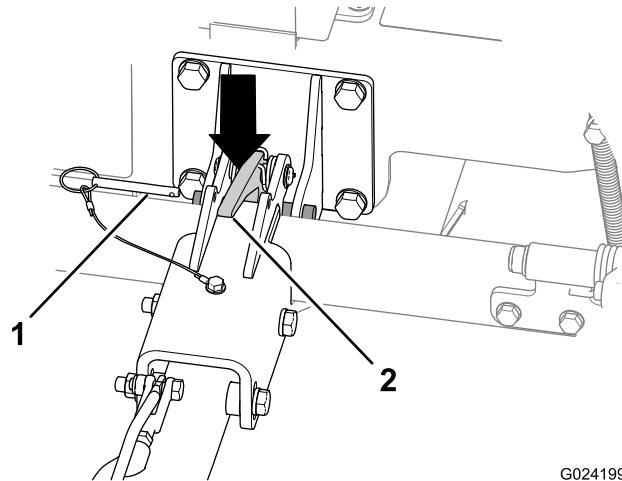

Figure 21
2. Remove the locking pin (Figure 21).
4. Push down on the hitch latch to unlatch the hitch (Figure 21).